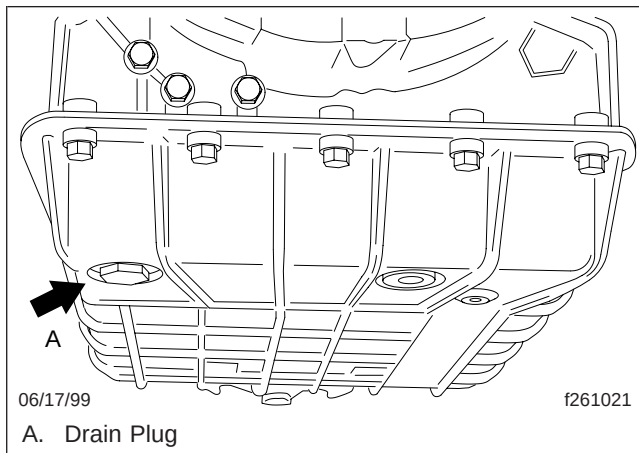

Fig. 16, Aisin Transmission Drain Plug
3. Clean the area around the drain plug. While the transmission fluid is warm, remove the magnetic drain plug and drain the fluid. See Fig. 16.
- If the ATF level is above the HOT range, remove the drain plug (Fig. 16) and drain ATF until the level is lower than the required range. Then, install the drain plug